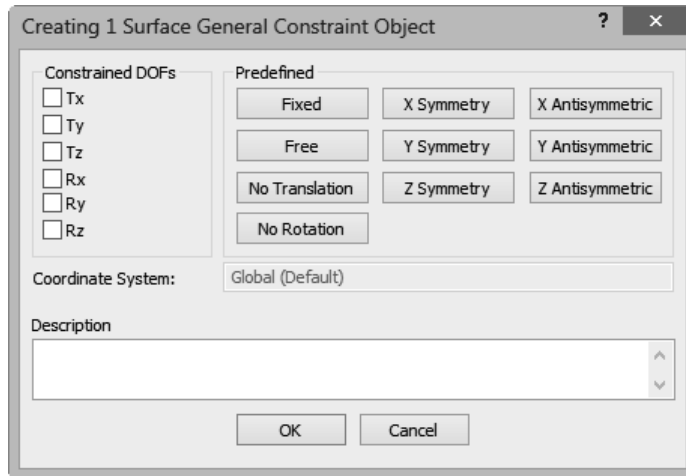

Figure 8-99 The Creating Surface General Constraint Object dialog box
2. Select the **General Constraint** tool from the **Constraints** panel of the **Setup** tab in the **Ribbon**; the **Creating Surface General Constraint Object** dialog box is displayed, as shown in Figure 8-99.